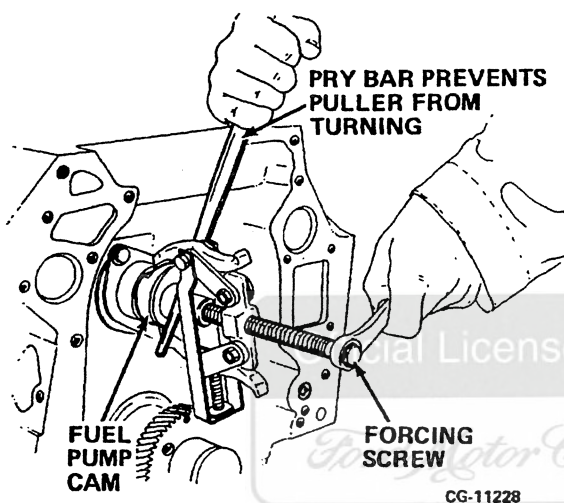

Figure 4.17. Removing Fuel Pump Cam Using SE-4156 Puller
6. With the gear removed, remove the woodruff key on the camshaft, near the fuel pump cam using SE-4156 Puller (Figure 4.17).